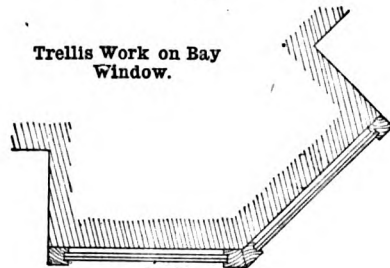

Fig. 2
**Fixing Trellis Work to Bay Window.**—The brickwork of a bay window may be covered with trellis work in the following way. Plough grooves to receive the trellis work should be made in some 1-in. by  $\frac{3}{4}$ -in. deal strips; these should be fixed to the angles of the brickwork, as shown in the illustrations. If the segments of the window heads are sharp, it will be necessary to cut the strips to the curves, as the strips will not bend. The trellis work can next be cut between so as to fit in the plough grooves, and fixed with brads. Fig. 2 is a horizontal section through the pier at A A' (Fig. 1).